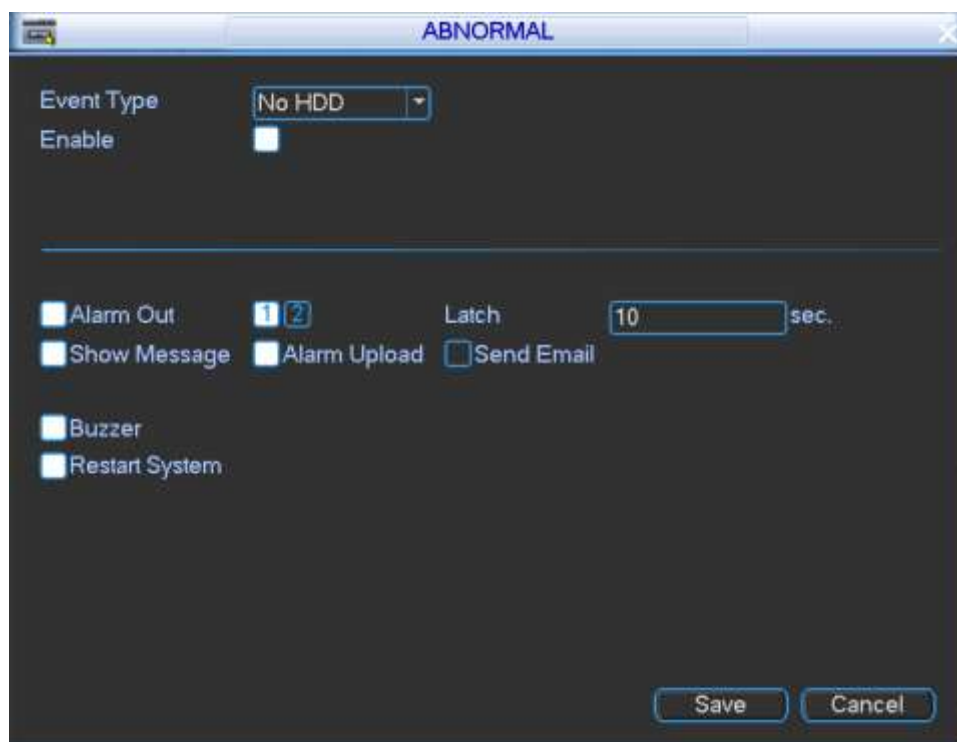

Figure 4-48
Step 1 From main menu->Setting->Event->Abnormality, the interface is shown as in Figure 4-48.